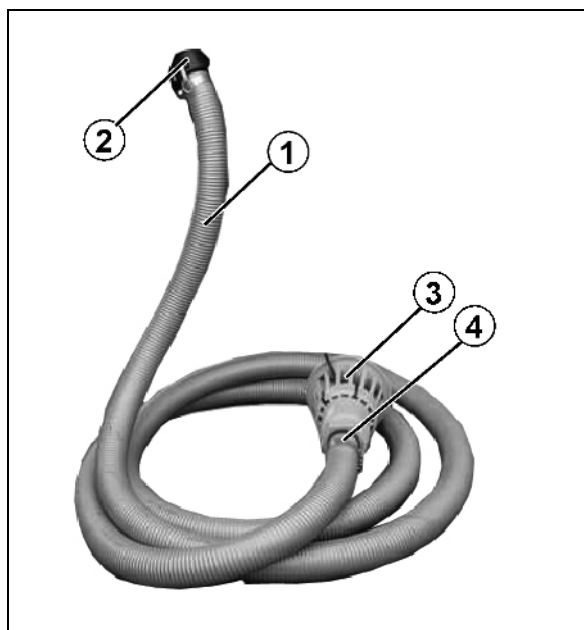

Fig. 45
- The agitation power can be adjusted continuously at the switch tap (Fig. 45/1).
Lock for drainage function of the pressure filter (Fig. 45/2).